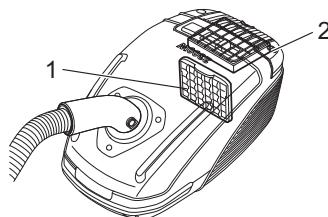

Fig.23
- If the dust filter bag is defective, a **protective motor filter (Fig. 23/1)** prevents larger particles from destroying the motor.
- A **hygienic blow-out filter (Fig. 23/2)** filters the finest particles from the blown-out air.